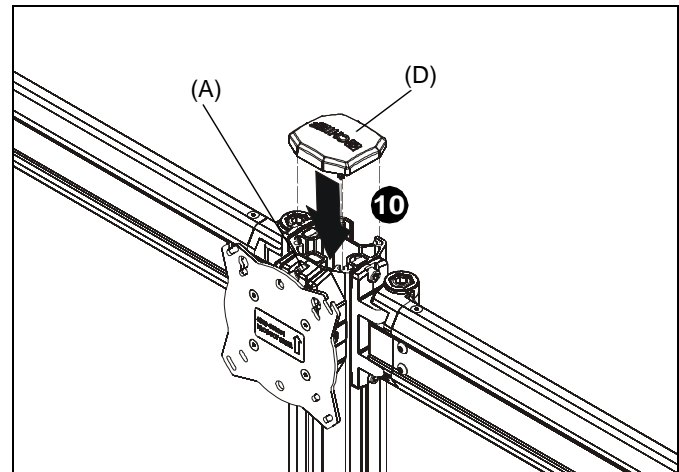

Figure 11
10. Snap column cap (D) onto top of array assembly (A). (See Figure 11)